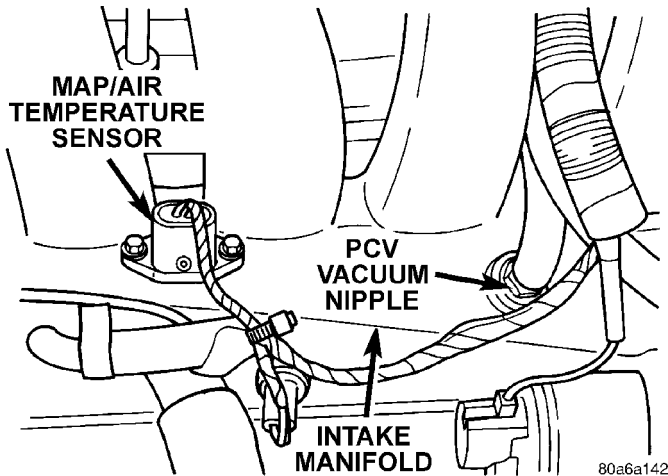

Fig. 36 MAP/Intake Air Temperature Sensor
(7) Inspect the electrical connections at the MAP sensor/intake air temperature sensor and the (Fig. 36).